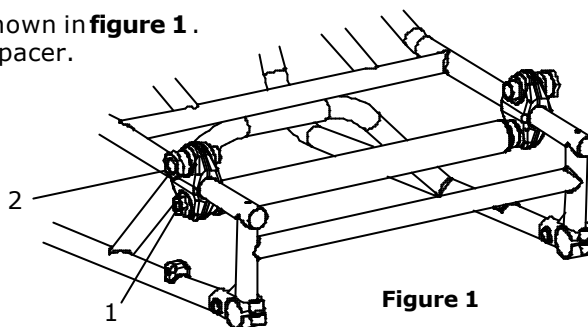

Figure 1
3. Loosen the nut (1) in the nut casing (2) as shown in **figure 1**.